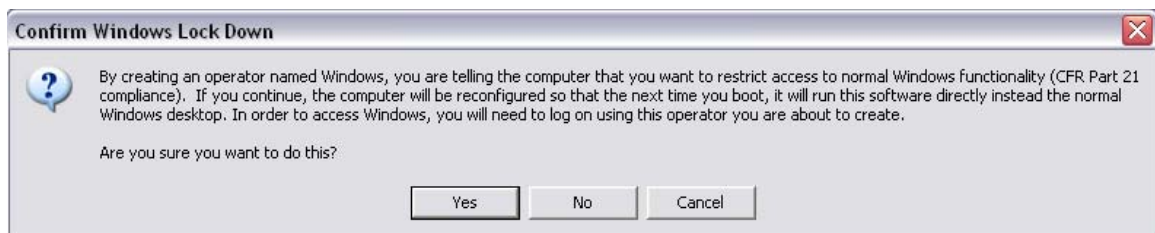

Figure 48: "Confirm Windows Lock Down" message
91. The **Confirm Windows Lock Down** message appears (Figure 48); click **Yes**.